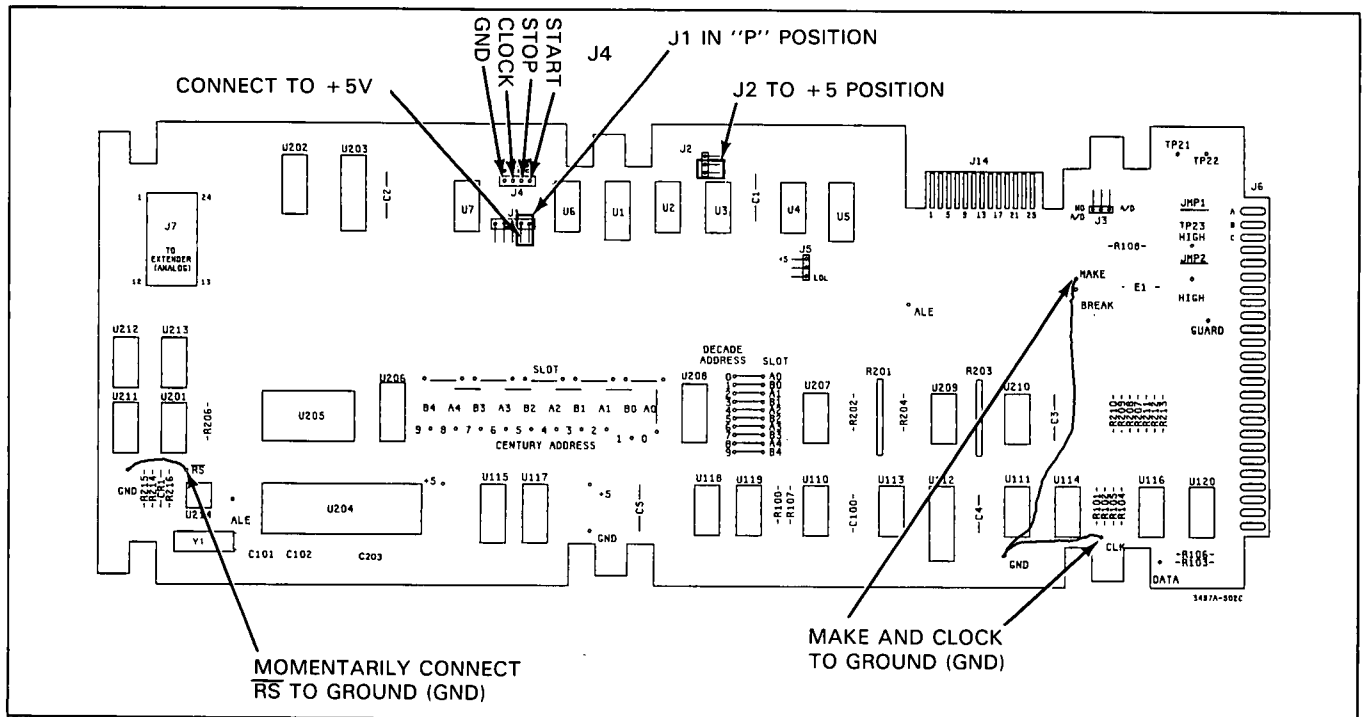

Figure 8-B-1. Setup for Inguard SA Test
f. Connect the signature analyzer as follows (see Figure 8-B-1):
- Gnd: Pin 1 of J4 (G)